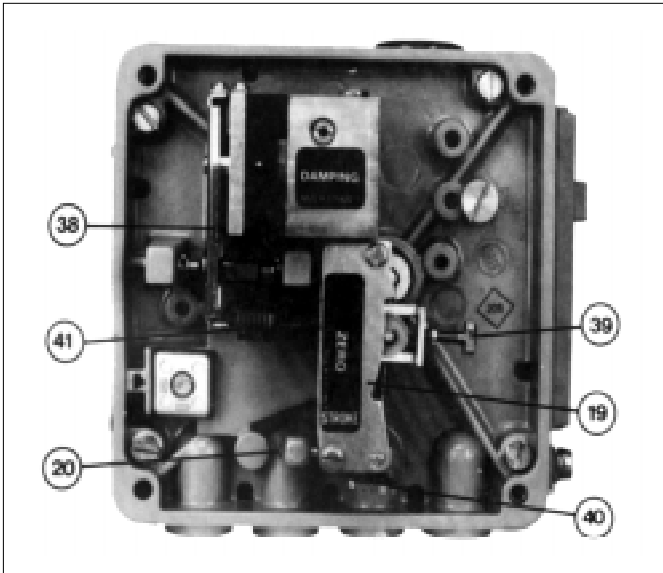

Figure 17
A. ZERO and STROKE Setting: (See Figure 17)